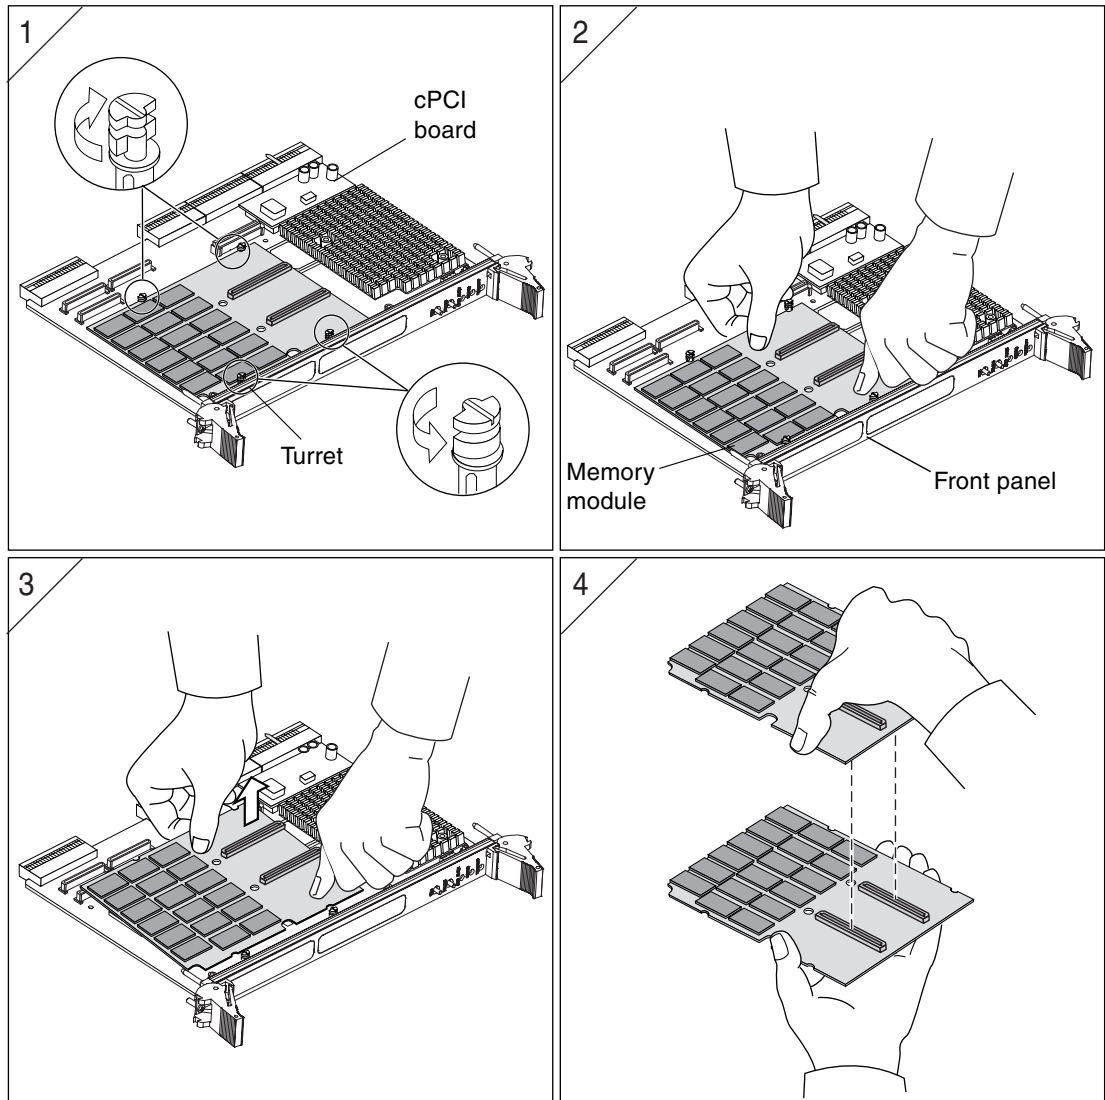

FIGURE 8 Double-wide Memory Module Extraction Procedure on a Typical Netra CP2000/CP2100 Board
Refer to FIGURE 8 and the following instructions to remove the memory module.
1. **Rotate the turrets into the position shown in FIGURE 8 Segment 1.**
2. **Place your hands on the module, as shown in FIGURE 8 Segment 2.**
3. **Gently pry the module up, one connector at a time, starting from the side farthest from the front panel (see FIGURE 8 Segment 3).**
When two memory modules are installed on a Netra CP2000/CP2100 board, the lower module might get extracted when removing the top module. If this happens, separate the modules by gently prying the modules apart (see FIGURE 8 Segment 4). Start with short ends of the modules. Try not to bend the modules, and use only enough force to unmate the connectors.